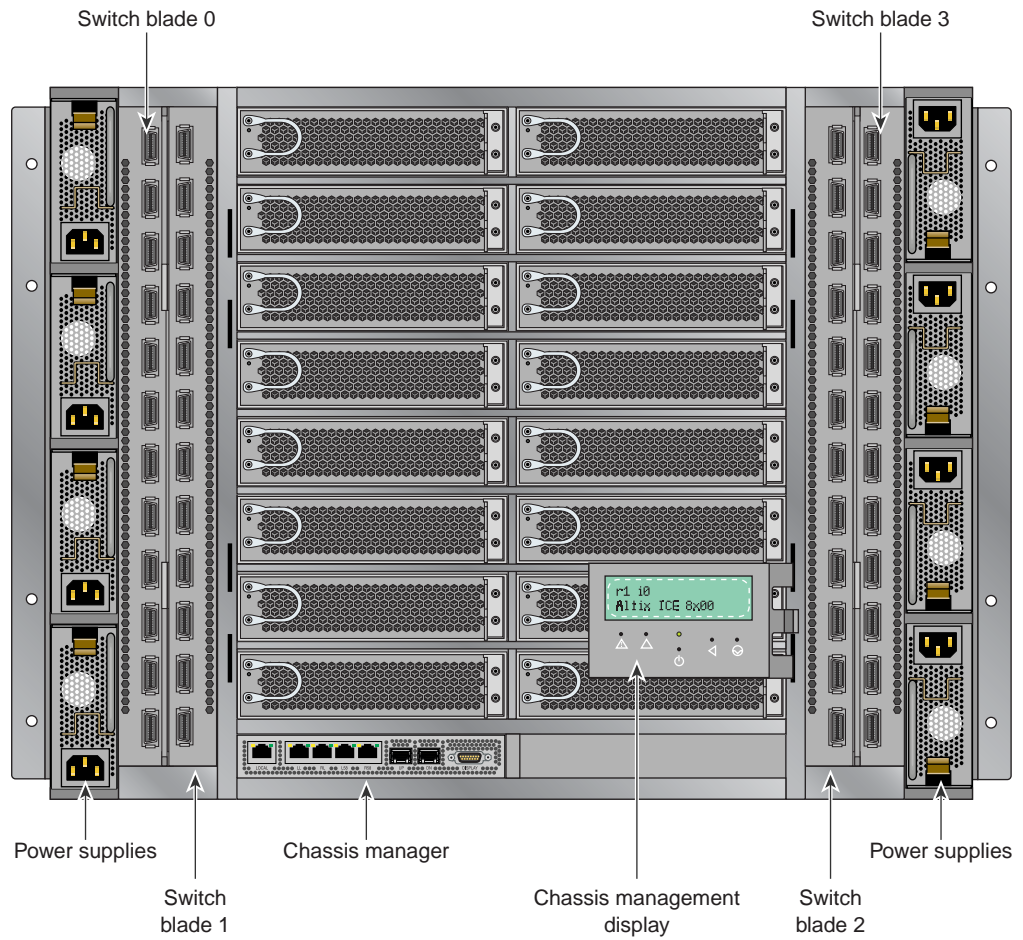
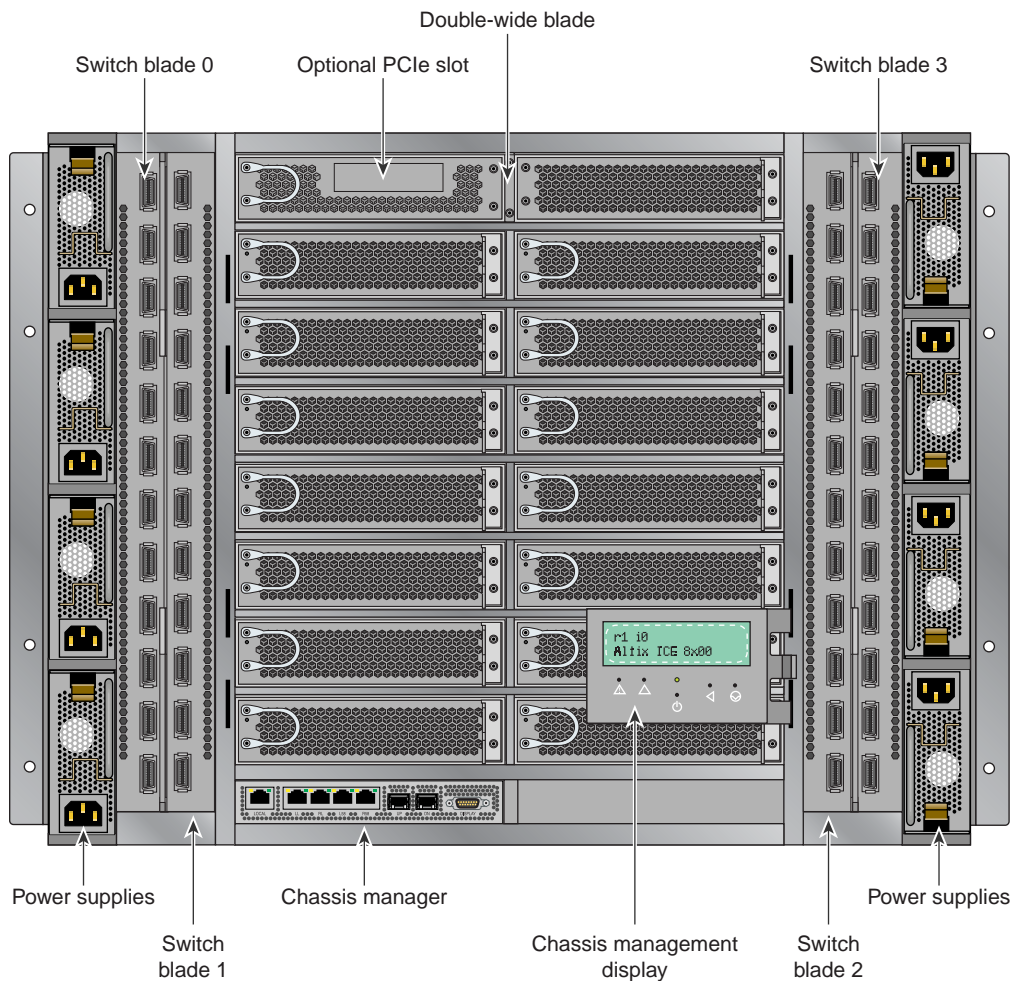

Figure 3-7 Altix ICE 8200 Series IRU System Components Example
Figure 3-8 Altix ICE 8200 Series IRU With Optional Double-Wide Blade Example
A minimum of one dual-inline-memory module (DIMM) set (2 DIMMs) is required for each single-wide blade. Single-wide blades are supported with 2, 4, 6, or 8 installed DIMMs. Optional double-wide blades use 4, 8, 12 or 16 DIMMs. An IRU example using single-wide blades only is shown in Figure 3-7 on page 36. An example IRU with an optional double-wide blade is shown in Figure 3-8 on page 37.
- **Individual Rack Unit (IRU).** This enclosure contains the compute/memory blades, chassis manager, InfiniBand fabric I/O blades and front-access power supplies for the Altix ICE 8200 series computers. The enclosure is 10U high. Figure 3-7 on page 36 shows the Altix ICE 8200 series IRU system components, Figure 3-8 on page 37 shows an example IRU with an optional double-wide blade installed in the top slot. Note the optional half-height PCIe slot in the double-wide blade's left section.